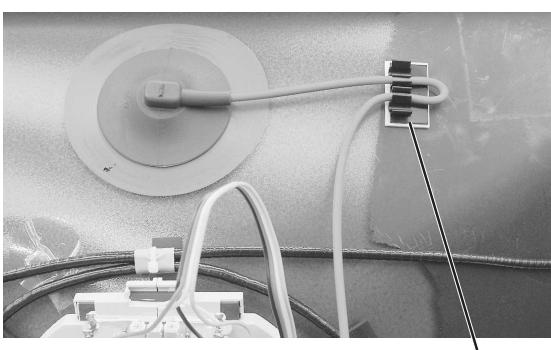

Fig. 9
- Pull the high voltage cable out of the holder ④ (Fig. 9) on the picture tube.